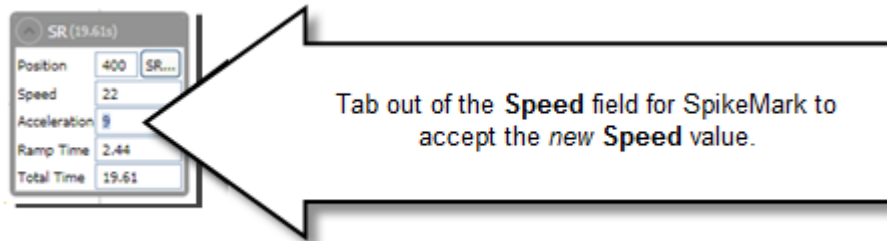

Figure 137
2. Enter in a new **Speed** value and press the **Tab** key. (Figure 137).